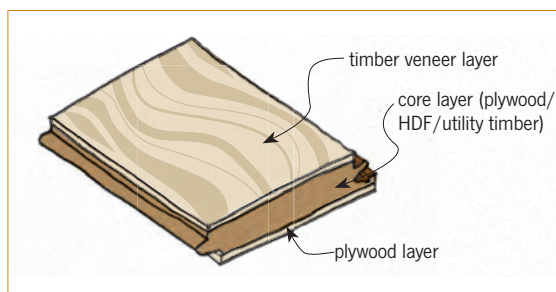

Figure 2: Timber veneer flooring.
**4.1.1** Timber veneer flooring (Figure 2) consists of: